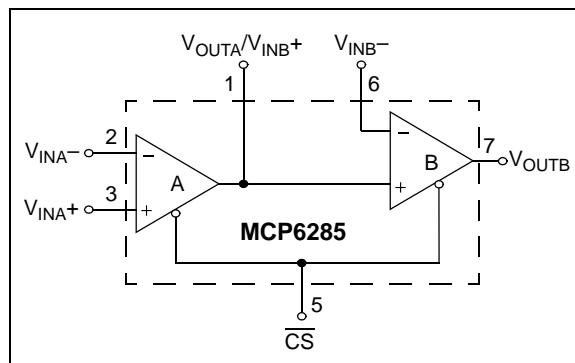

FIGURE 4-5: Cascaded Gain Amplifier.
The MCP6285 is a dual op amp with Chip Select (CS). The Chip Select input is available on what would be the non-inverting input of a standard dual op amp (pin 5). This pin is available because the output of op amp A connects to the non-inverting input of op amp B, as shown in Figure 4-5. The Chip Select input, which can be connected to a microcontroller I/O line, puts the device in Low-power mode. Refer to Section 4.4 "MCP628X Chip Select \(CS\)".